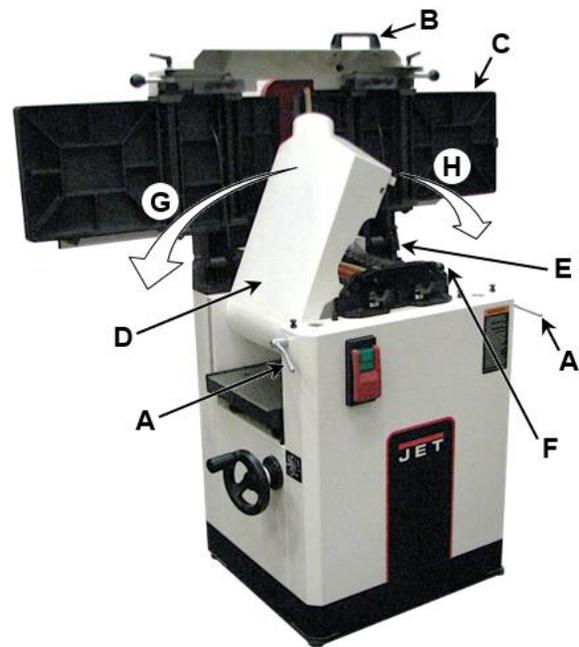

Figure 3
1. Release both *cabinet table locks* (A) by rotating the handles toward the operator, then pulling away from the machine.
2. Raise the *table* (C) using the *handle* (B). When raised, the table should be in the vertical position as shown in C, Fig. 3. The *latch* (E) should be engaged, preventing the table from an accidental forward fall.